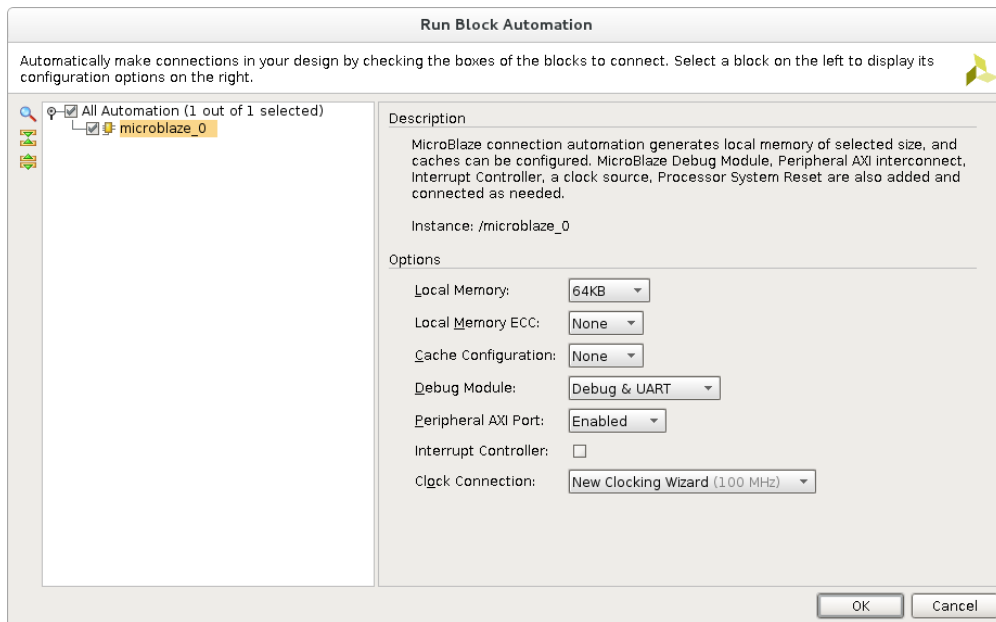

Figure 3: Run Block Automation
- (d) The Block Design Diagram opened (tab called Diagram) is empty. Right click within the diagram tab and select 'Add IP'. Search 'MicroBlaze' and double click on 'MicroBlaze' to add it to our design. Right click and select 'Run Block Automation'. Select the following configuration for the MicroBlaze processor and click 'OK'. (Figure 3)